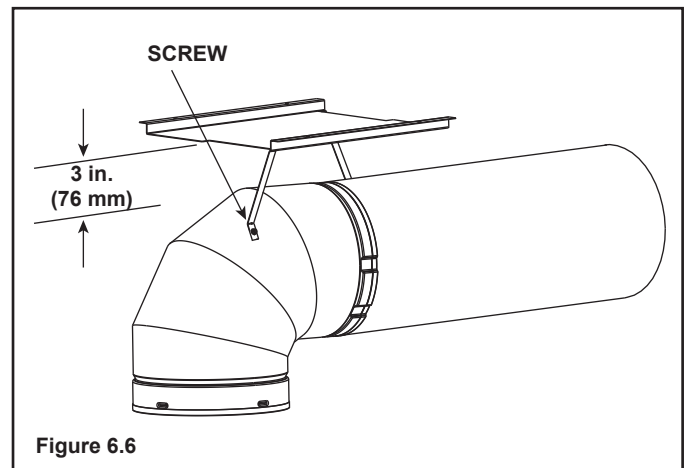

Figure 6.6
- If the combustible materials are not in place at the time of install the elbow heat shield may be screwed to the exhaust pipe (see Figure 6.6). Cut the tabs as shown and bend down. Secure the heat shield to the pipe maintaining 3 inch to 4 inch between the pipe and shield.